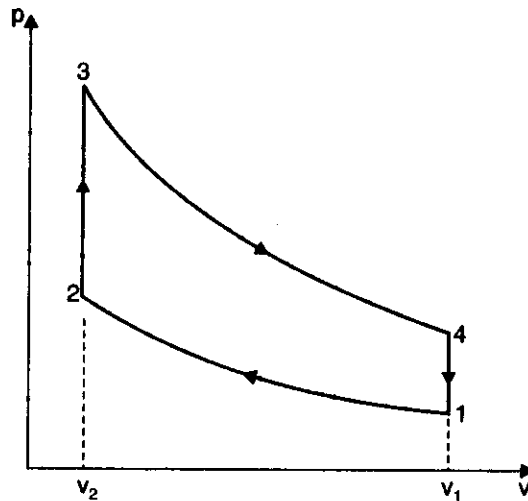

Fig. 13.13
**Solution.** Refer Fig. 13.13.
**Solution.** (a) Refer Fig. 13.13 (Example 13.14).